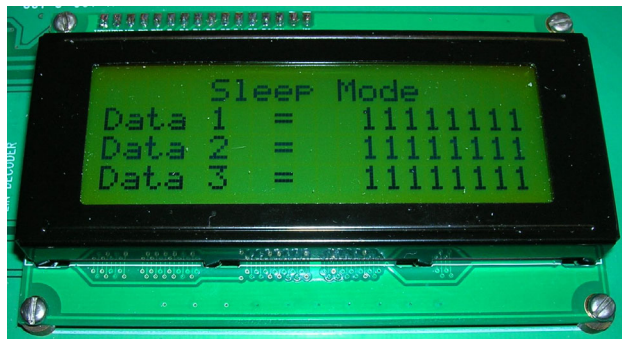

Figure 10. Sleep Mode
- All selected outputs will remain illuminated until the NCV7748 sleep timer has expired. This is indicative of no communication on the LIN bus. When the sleep timer expires, all outputs will turn off. When in sleep mode, a GET STATUS command will display "Sleep Mode". All 1's are displayed (Figure 10) because the bus is recessive in sleep mode.